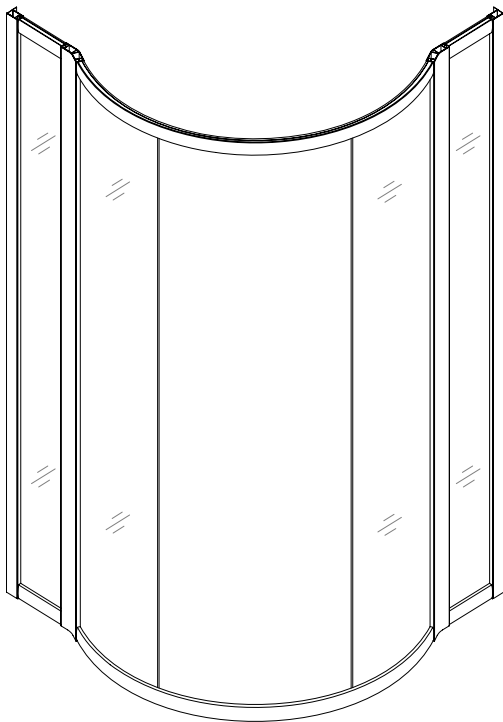
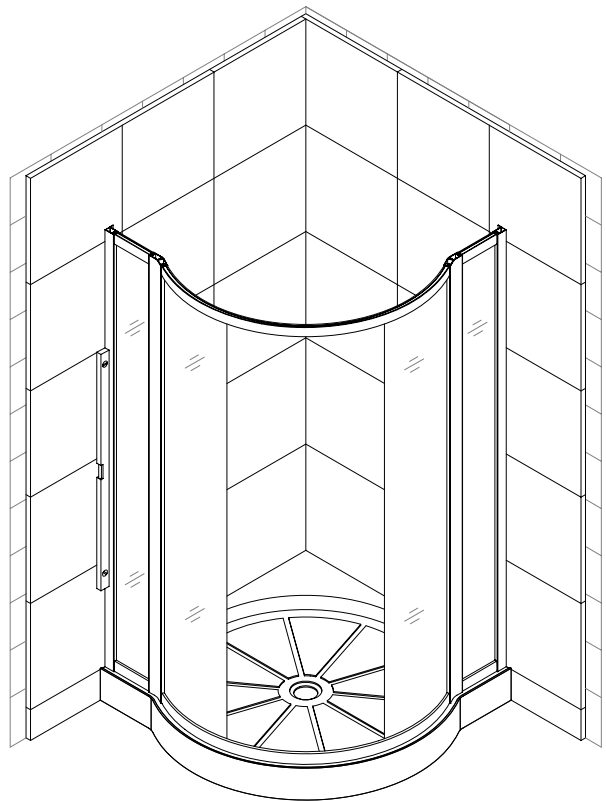

Fig 7
Fig 8
6. Carry the assembled unit (fig7) on the top of tray; push it against wall (fig 8). You can adjust position of the shower by pulling it partially out of the Wall profile.
7. Now adjust one of Wall profiles vertically using level and mark holes on the wall (fig 8). Using help to hold this profile in the right position, level another profile and mark holes. Gently move the assembled unit on the side, drill holes into the wall, insert anchors (16) (fig 9).
8. Place the whole shower assembly on the tray and attach it to the wall using ST4.2x30 screws (11).